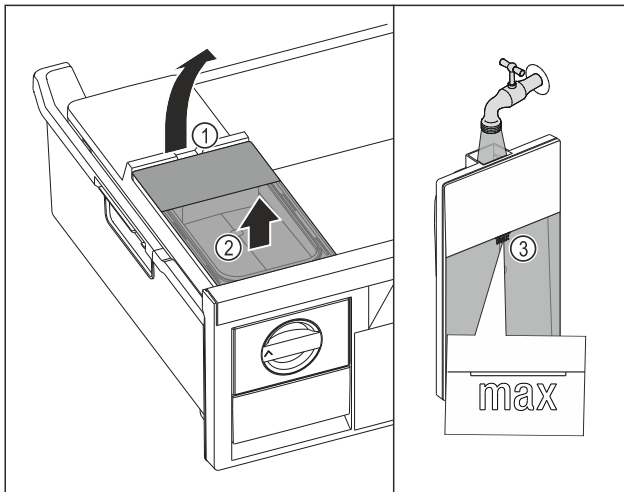

Fig. 42
- Lift the water tank at the recess Fig. 42 (1).
- Remove the water tank by lifting it upward. Fig. 42 (2)
- Fill the water tank with drinking water up to the mark Fig. 42 (3).